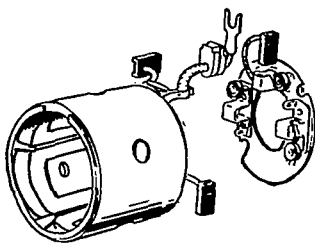

FIGURE 27. STARTER BRUSHES
5. One of the brushes has been soldered to the brushholder (Figure 27). The brush springs can be removed from the brushholder.